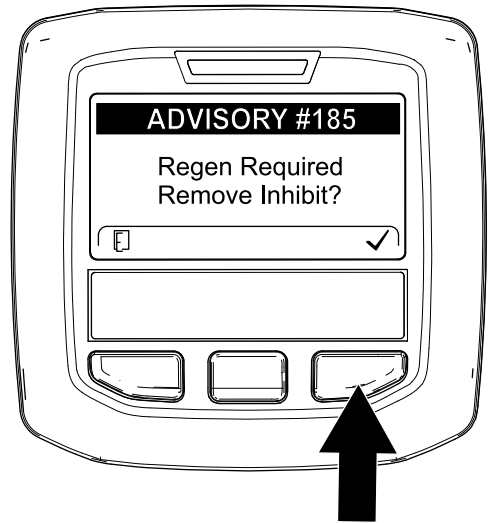

Figure 51
**Note:** If INHIBIT REGEN is set to ON, the InfoCenter displays ADVISORY #185 (Figure 51). Press button 3 to set inhibit regeneration setting to OFF and continue with the reset regeneration.